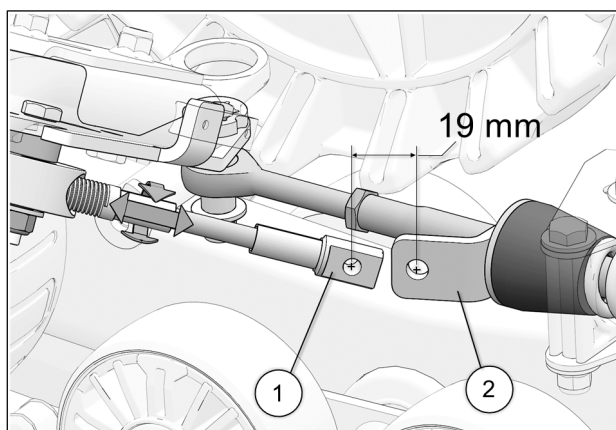

Fig. 27
15. Turn the vehicle's steering wheel to its maximum point of travel on the left. While maintaining pressure on the steering wheel, turn threaded rod to adjust length of cable. See Fig. 27
16. Position cable end hole (1) 19 mm [ $\frac{3}{4}$  in.] short of the support plate mounting hole (2). See Fig. 27